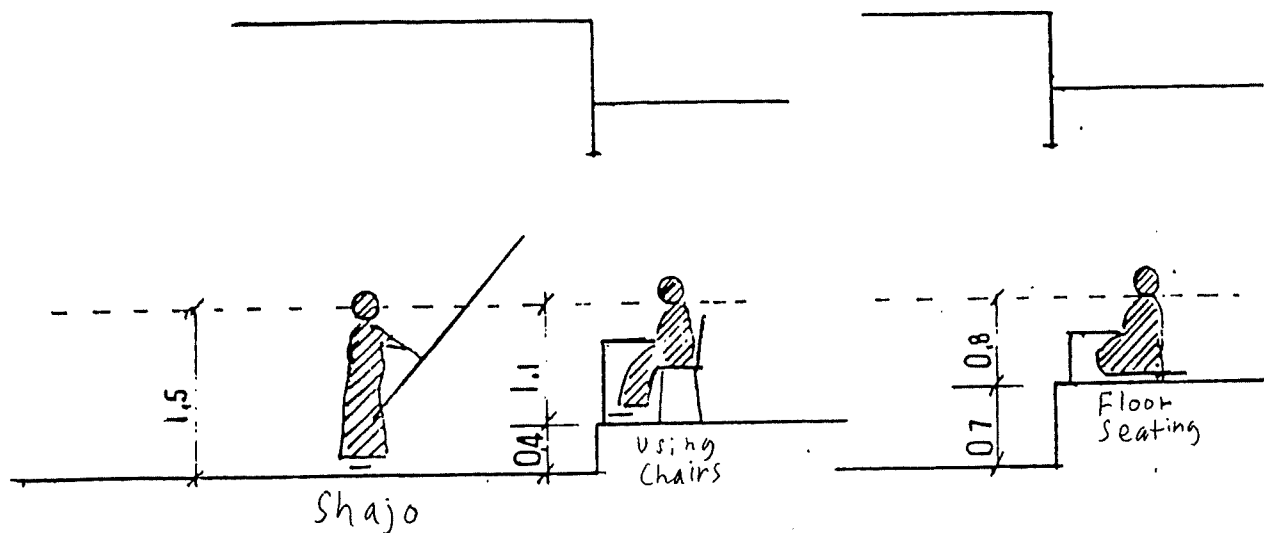

Figure 4 Floor Height For The Judges' Seat
The judges' seat can be provided by simply extending the width of the floor or by raising the floor and providing a separate room or area. (See Figures 4 and 5 in Section 3, Judges.)
3. The height of the floor should be such that the eye level of the judges is not lower than that of the archers. See Figure 4.